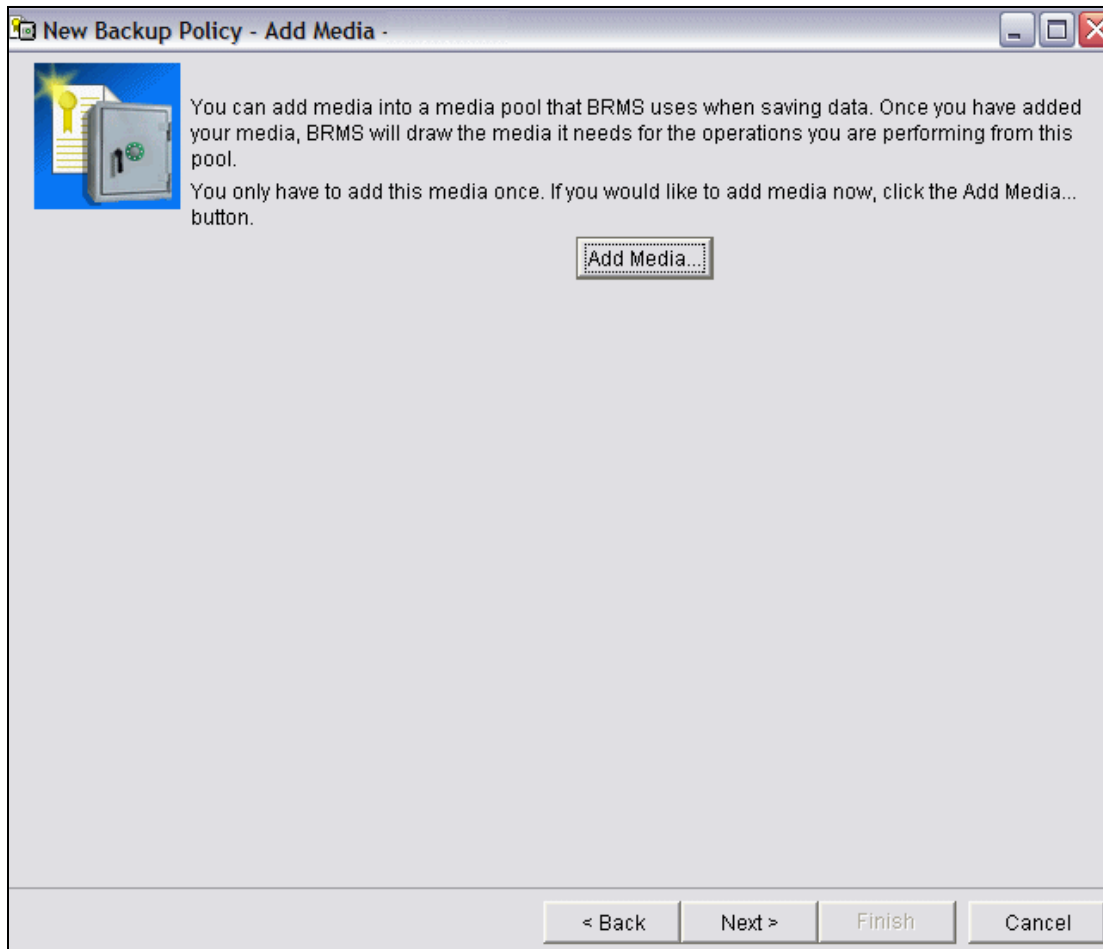

Figure 7-30 Add media
5. The window shown in Figure 7-30 on page 362 allows you to add media. This can, alternatively, be done as a separate task.
6. At this point, since volumes are not being added, click **Next**, as shown in Figure 7-30 on page 362.